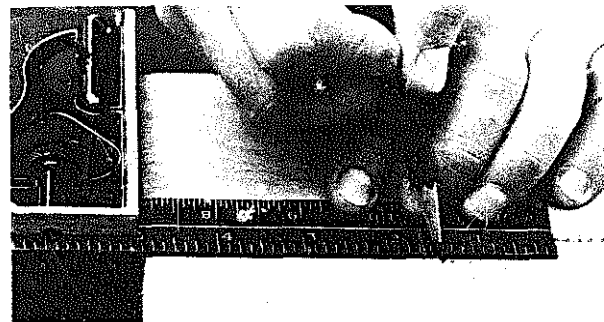

Fig. 4-54 Laying out lines for finish carpentry with a hard lead pencil
2. To lay out lines for finish carpentry, a regular hard lead pencil sharpened to a conical point is used. See figure 4-54.